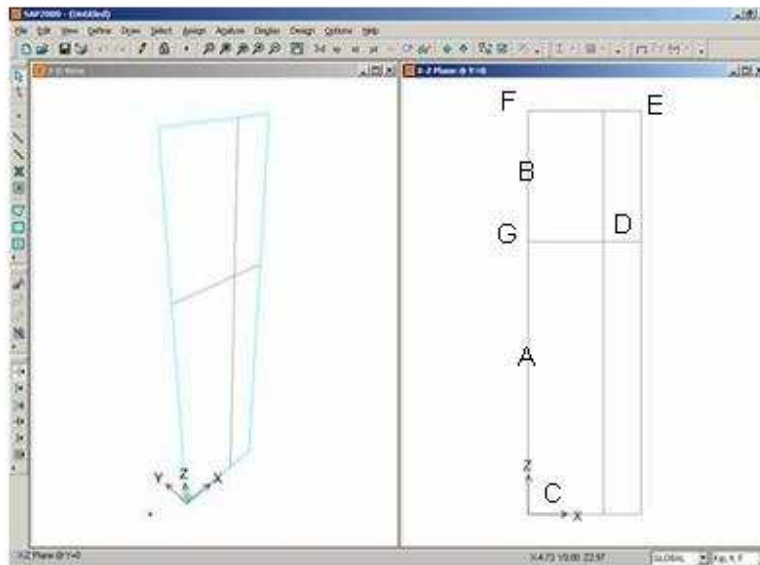

Figure C-2 Initial Grid Layout in X-Z Plane
10. Click on the grid line at the point labeled “A” in Figure C-2 to enter a frame object.
11. Click on the grid line at the point labeled “B” in Figure C-2 to enter another frame object.
13. Click on the points labeled “C,” “D,” and “E” in Figure C-2, in that order, and then press the Enter key on the keyboard to draw two more frame objects.
14. Click on the point labeled “F” and then double click the point labeled “E” in Figure C-2 to draw the next frame object.
Note: You could have single-clicked the point labeled “E” in Figure C-2 and then pressed the Enter key on the keyboard to finish drawing the frame object.
15. Click on the point labeled “G” and then double click the point labeled “D” in Figure C-2 to draw the next frame object.
16. Click on the point labeled “D” and then double click the point labeled “F” in Figure C-2 to draw the next frame object.